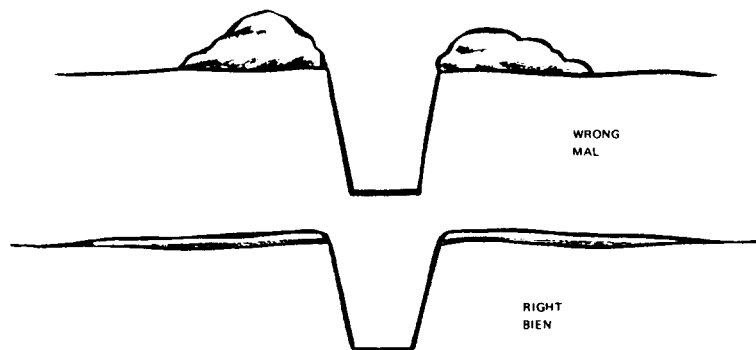

Figure 4-19 Snow Trench
2. Snow Trench. With the snow deep enough, this is the one most commonly used. It is dug into any deep snow and should be deep enough for a man to stand in (see Figure 4-19).